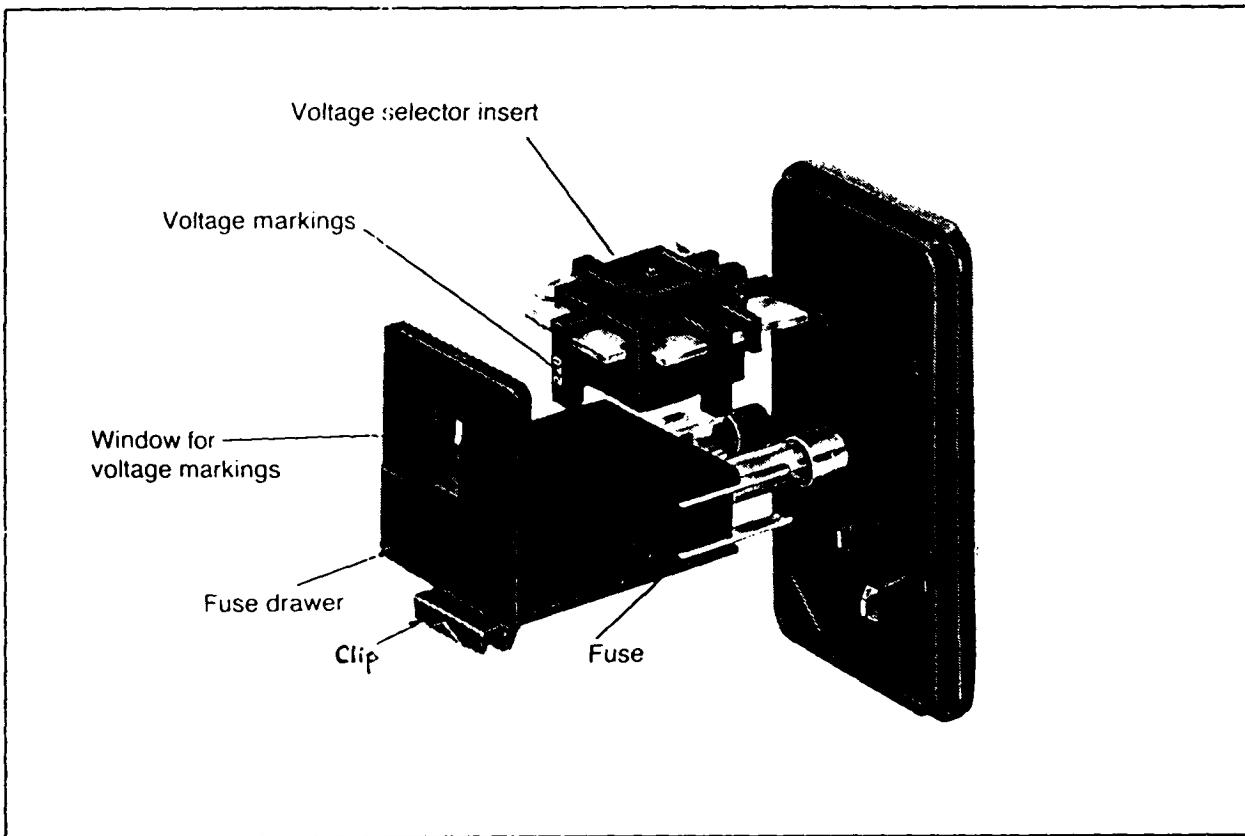

Figure 3-3 AC Voltage Entry Module - shown open.
- 3) 120 VAC or 240 VAC Main Power Setting. To change to 240 V, the setting of the AC module (see Figure 3-3) on the rear of the controller box must be reset and the AC fuses changed.